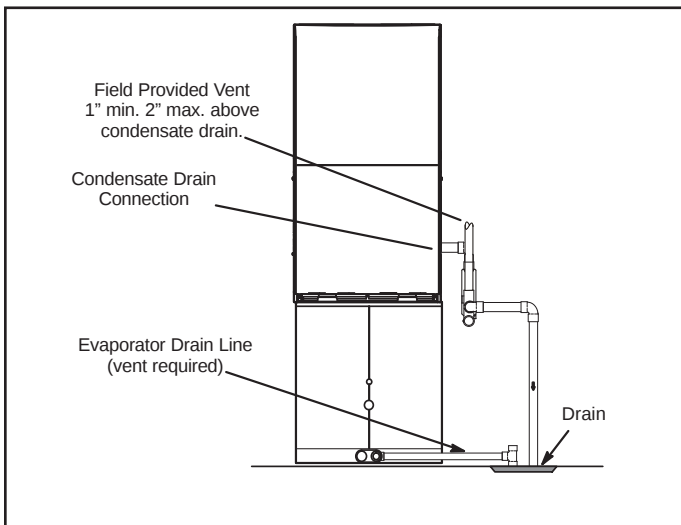

Figure 44. Unit with Cooling Coil Using Separate Drain
5. Figure 44 shows the furnace and evaporator coil using a separate drain. If necessary, the condensate line from the furnace and evaporator coil can drain together. See Figure 46. The field provided vent must be a minimum 1" to a maximum 2" length above the condensate drain outlet connection.